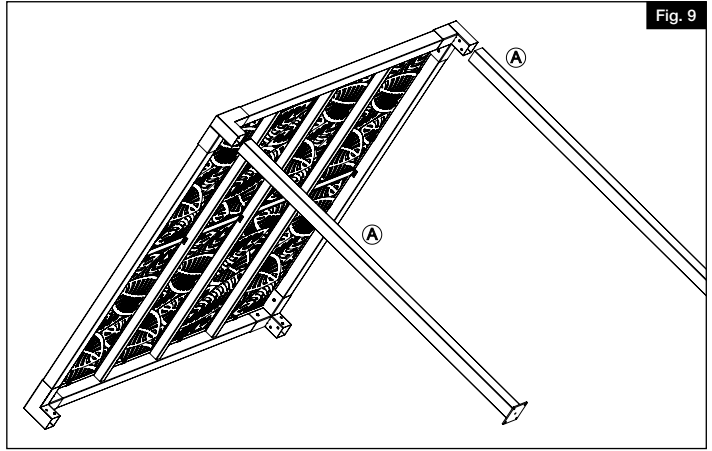

Fig. 9
Using 2-3 people, tilt the top frame assembly on an angle to insert posts (A) into corner brackets (E) (Fig. 9). Take care that holes are lined up on post & corner bracket assembly.